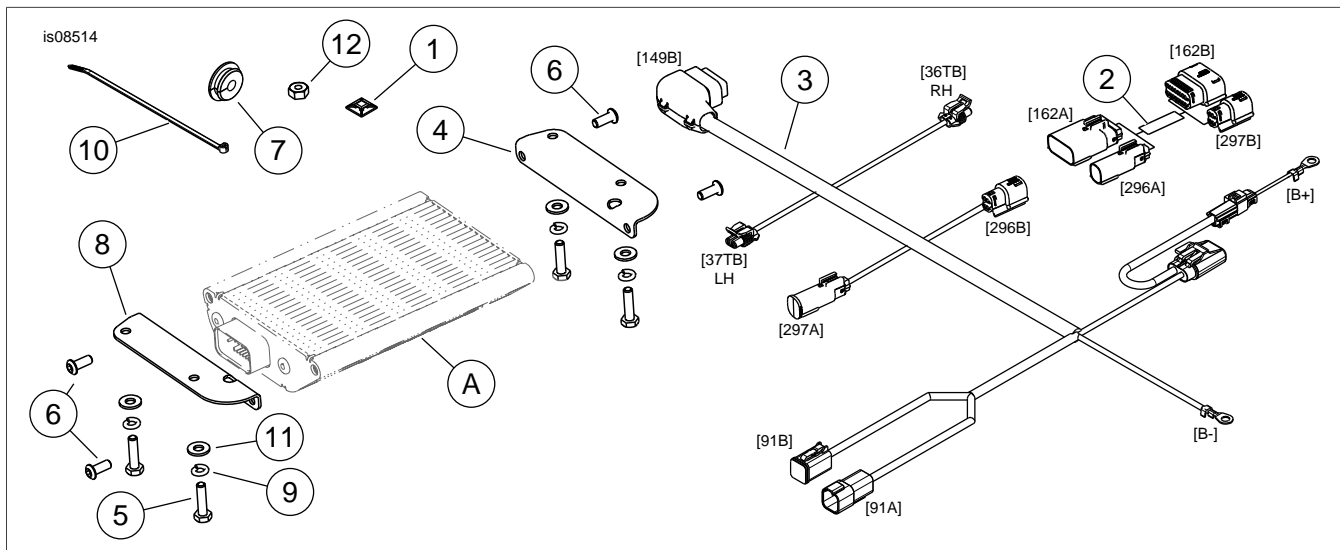

Figure 4. Service Parts, Amplifier Installation Kit
See Figure 4 and Table 1.
See Figure 4. Apply the **new** capacity label (13) from the kit to cover the original label. Note the revised load limit due to the amplifier installation.
2. Install the brackets (4 and 8) to amplifier (A) with screws (6). Alternately tighten to 84-108 **in-lbs** (9.5-12.2 N-m).
These holes are for leads [36TB] and [37TB] of the amplifier harness (Figure 4, Item 3), which are connected during installation of the Boom! Audio Stage II Tour-Pak Speaker Kit (Part No. 76000526).
3. See Figure 4. Plug in socket connector [91B] on the amplifier harness (6) to connector [91A] under the seat.